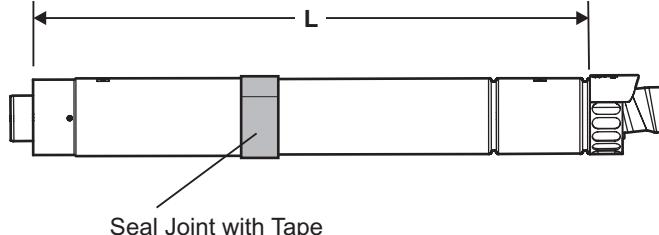

Fig. 5.7
2. Determine the overall length (L) of flue required, (see Fig. 5.7) as follows:-